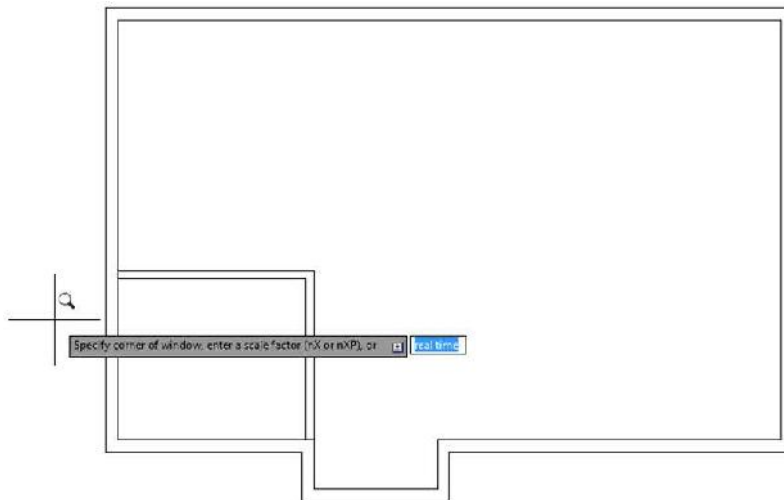

FIGURE 4.19: Positioning the cursor for the first click of the **ZOOM** command
2. Type **Z**. Then move the crosshair cursor to a point slightly below and to the left of the upper T-intersection (see Figure 4.19), and click in a blank area outside the floor plan.